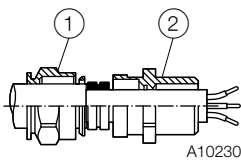

Fig. 2: Tighten cable gland
IP rating IP66 / 67 is only achieved by installing the black neoprene sealing ring between the cable gland and the housing and by observing the tightening torque of 3.6 Nm (Fig. 2, item ②).
5. Tighten the cable gland until the cable is firmly enclosed by the sealing ring (Fig. 2, item ①). Do not tighten by more than 1.5-times the specified torque on the housing (see assembly instructions).